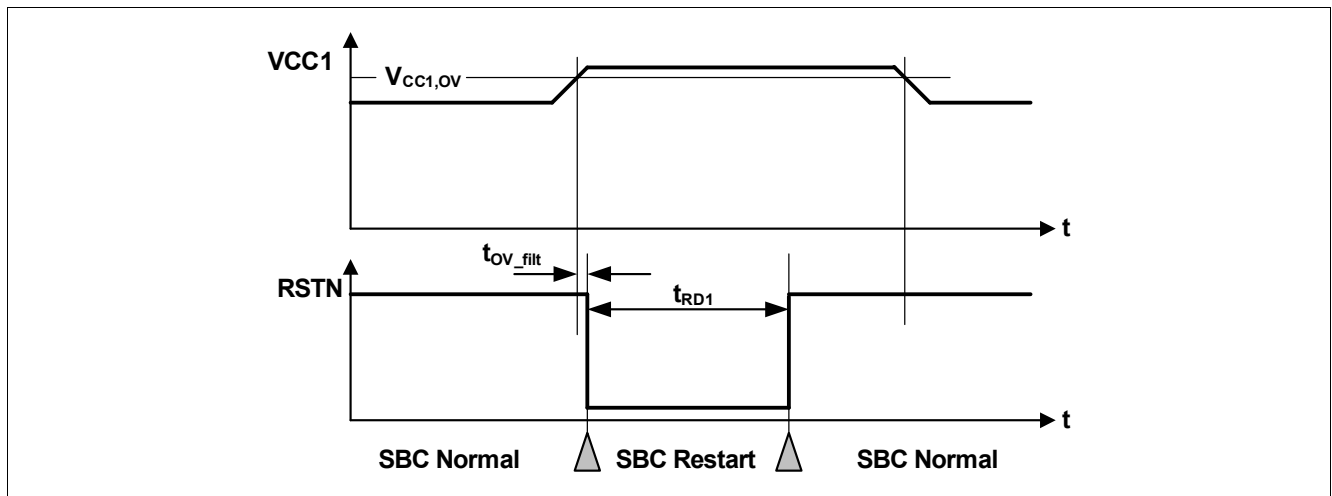

Figure 38 VCC1 Over Voltage Timing Diagram
- If the bit **VCC1\_OV\_RST** is set and **CFG0\_STATE** = '1', then SBC Restart Mode is entered. The FO output is activated. After the reset delay time ( $t_{RD1}$ ), the SBC Restart Mode is left and SBC Normal Mode is resumed even if the VCC1 over voltage event is still present (see also Figure 38). The **VCC1\_OV\_RST** bit is cleared automatically;